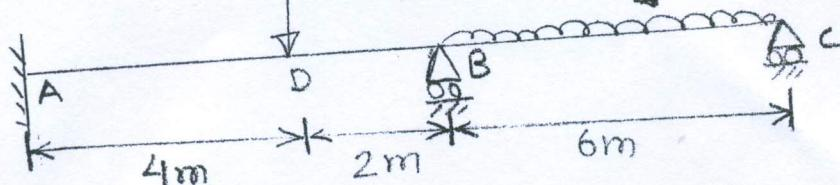

Fig.2
- (A) Analyze a beam as shown in Fig.2 by slope deflection method. Determine final end moments. [10]